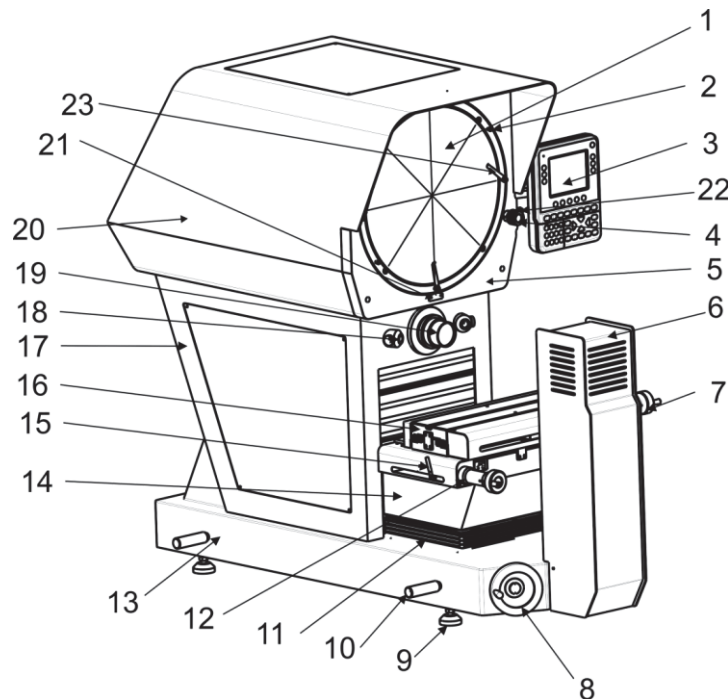

Fig 2 Structure
Mainly consists of four parts: the main body of the transmission illumination, the base of the instrument, the working table and the projection box. (as Fig 2)
5.5.2 When the locking screw (Fig 2, 22 #) is released, the projection screen can be quickly rotated by the small handle (Fig.2, 2 #) on the projection screen frame or by using the fine-tuning hand wheel . Corner bottom measurement should be slow rotation.
5.5.3 Four flexible platens on the projection screen frame can be used to compress standard or glass workpieces for contour measurements. (Fig 2 , 23#)
5.5.4 When the projection screen white Short-term zero mark, the level of the line screen and the X-axis coordinates parallel stroke, parts of the measured edge image will adjust to it and can be made after the tangent X coordinate measurement. (Fig 2, 21#)